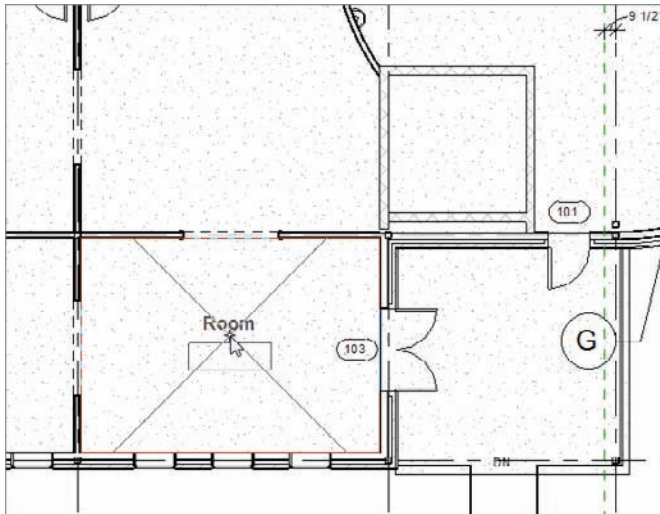

FIGURE 15.2 When you hover your mouse over the intended area of the room, you see an indication that Revit has found the bounding edges.
3. Hover your cursor over the southeast room, as shown in Figure 15.2. An X appears, along with the outline of a room tag.